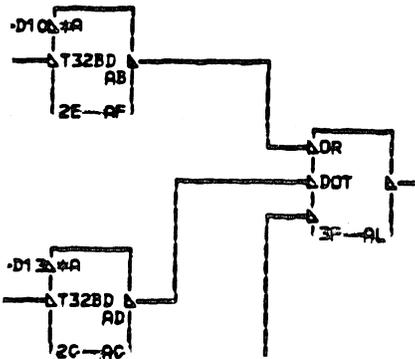

Figure 46. AND, OR, Inverter
Wedges: The wedge (\blacktriangleleft) is a small triangle (Figure 46) at the point where a signal line joins a logic block. The wedge indicates that the active state of this line (the state which satisfies the function of the block to produce an output line of the state indicated) is at the least positive potential with respect to the most positive potential shown by the signal line without a wedge.
The basic logic blocks (Figure 46) are the AND (A), OR (OR), and the inverter (N). Almost all other circuits can be built from a combination of these basic circuits. Specifically: